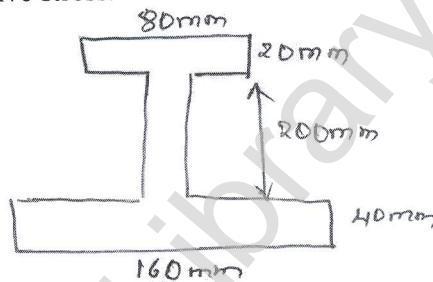

Fig.Q7(b)
b. A cast iron beam section shown in Fig.Q7(b) is freely supported on a span of 5m. IF the tensile stress is not to exceed 20 N/mm2. Find the safe UDL which the beam can carry. Find also the maximum compressive stress. (10 Marks)